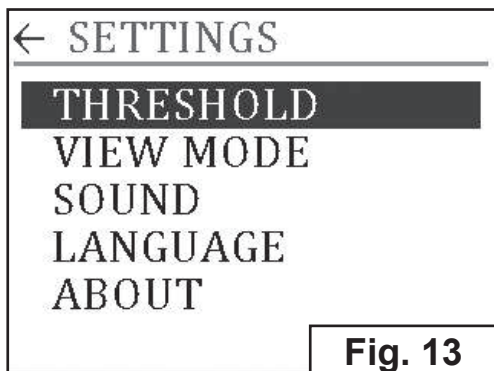
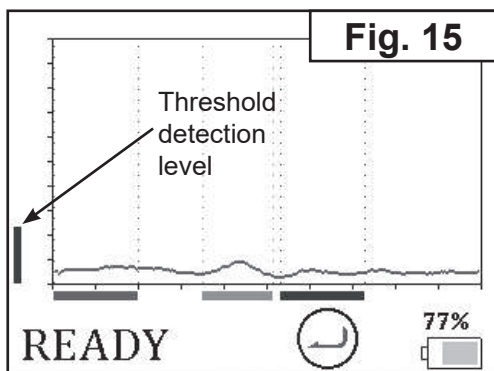

Fig. 13
Fig. 15
2. Select «THRESHOLD» by tapping it (Fig. 13).
4. To exit from Settings Menu tap **←** (Fig. 13). The EVD will pass to a «READY» mode (Fig. 15).